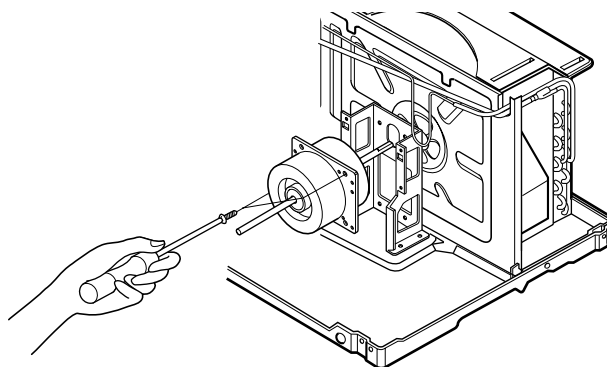

Figure 23
7. Remove the 2 screws which fasten the motor from the mount motor. (See Figure 23)
9. Re-install the components by referring to the removal procedure, above.(See Figure 23)